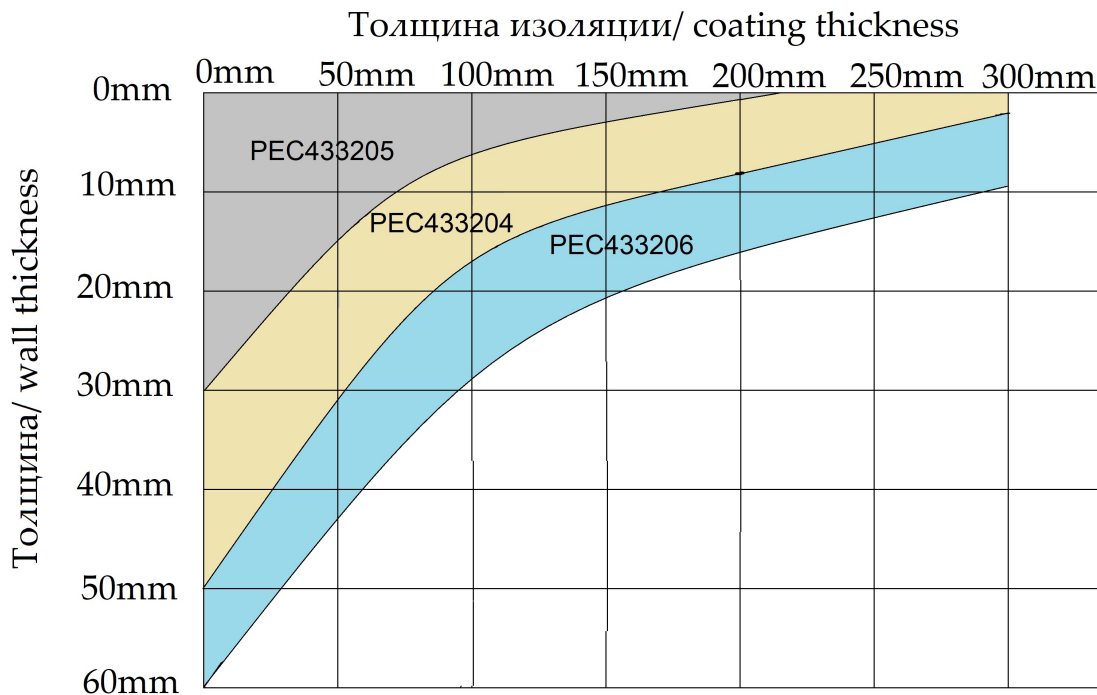

Figure 39. Diagram for sensor selection, for aluminum casing or for option without casing
Figures 39 and 40 show a diagram for sensor selection depending on the above parameters.
*For example:* suppose you want to test a pipe with 10 mm wall thickness, 100 mm thick insulation and aluminum casing. Then, according to Figure 39, you shall use sensor PEC433204. The transducer PEC433206 will also work in this case, however, its selection will not be reasonable as PEC433206 has the greater area where the Device measures the average thickness.
*For example:* suppose you should test a pipe with 20 mm wall thickness, 150 mm thick insulation and aluminum casing. Then, according to Figure 39, you shall use sensor PEC433206, and other transducer will not work in this case.